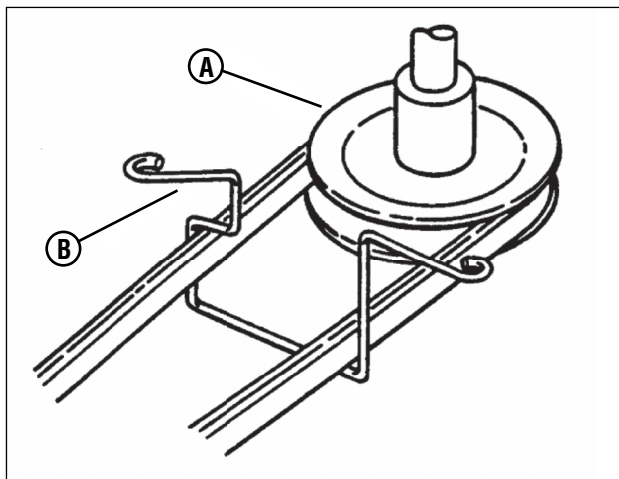

Figure 45: Engine pulley and belt guide
4. Route the new belt through the engine belt guide (B, Figure 45) up to the engine pulley (A).